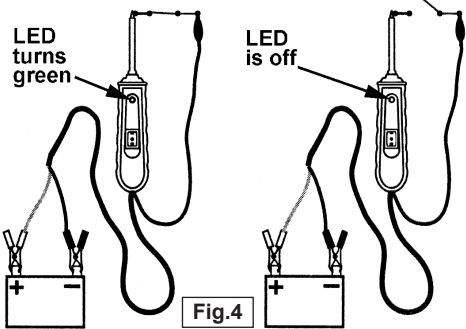

Fig.4
3.4 CONTINUITY TESTING. (See Fig.4)